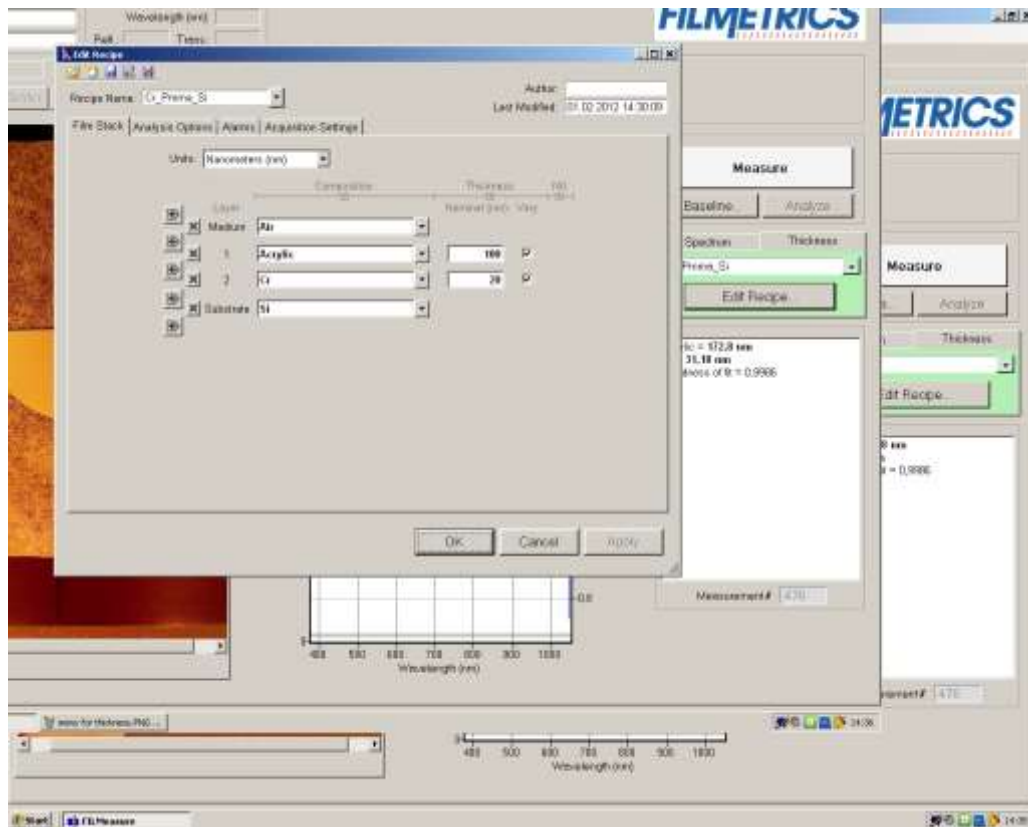

Figure 5: The recipe editing menu
8. **If you are editing the recipe read this else jump to 9.** When you press the edit recipe button you should see a dialogue like in Figure 5. Here you can add layers of a specific thickness in the correct order to describe your thin-film stack. You can also choose which materials the machine should try to measure, if you are sure about the thickness of some layers. This is